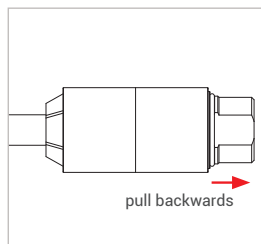

Figure 6
- ▶ Pull gently on the lower part of the connector (Pos. 2) (Red arrow Figure 6) in the direction opposite that of the connection to make sure that the connector is properly connected.